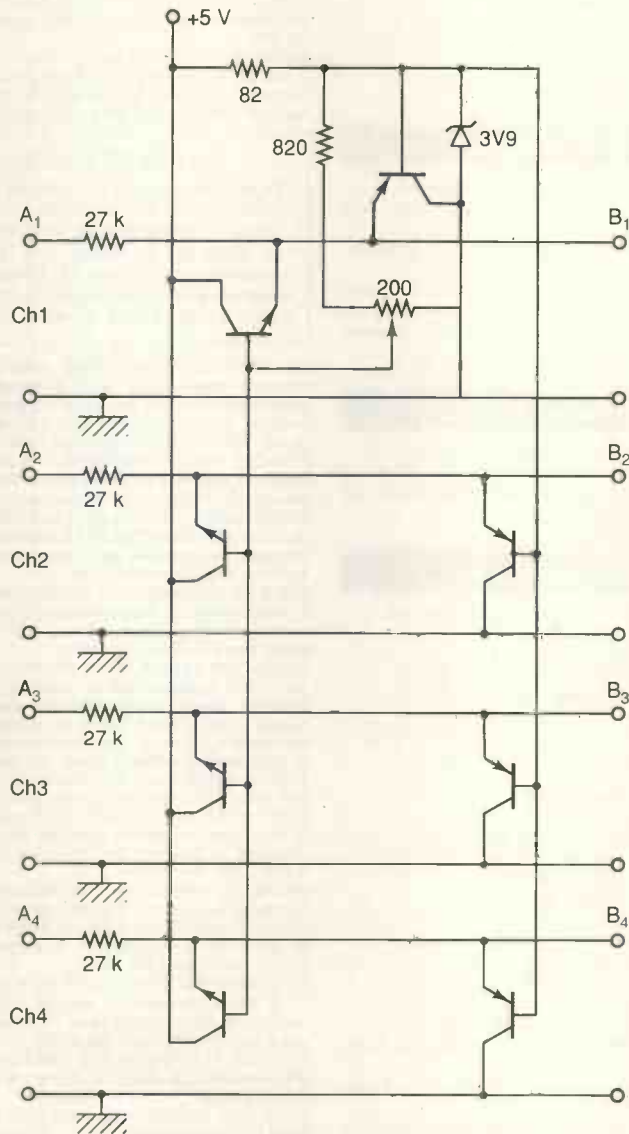

Fig. 15. A scheme designed to give protection to four channels employing monopolar ranges operating off a single (or dual) supply.
It is quite straight forward to extend protection to several input channels without unnecessary circuitry duplication. Fig. 15 shows a scheme designed to give protection to four channels employing monopolar ranges operating off a single (or dual) supply. For each additional channel three additional components only are required: the voltage dropper,  $R$ , one PNP and one NPN transistor. The base of each PNP device shares the common potential,  $V_{ref1}$ , while the base of each NPN transistor shares the common potential,  $V_{ref2}$ . The collector of each PNP transistor is connected to its individual analogue ground terminal, while the NPN collectors are each commoned to  $V_{cc}$ . This permits multichannel protection to be achieved with few additional components.